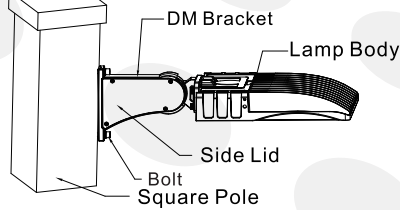

Figure 3-2
- Fix the Straight Arm bracket to the square pole with bolt. Connect the power cable to the pole cable, make sure good protection on the wire connection, and put the wire in the Straight Arm bracket; close the side lid and tighten it, (Figure 3-2) then finish in installation.